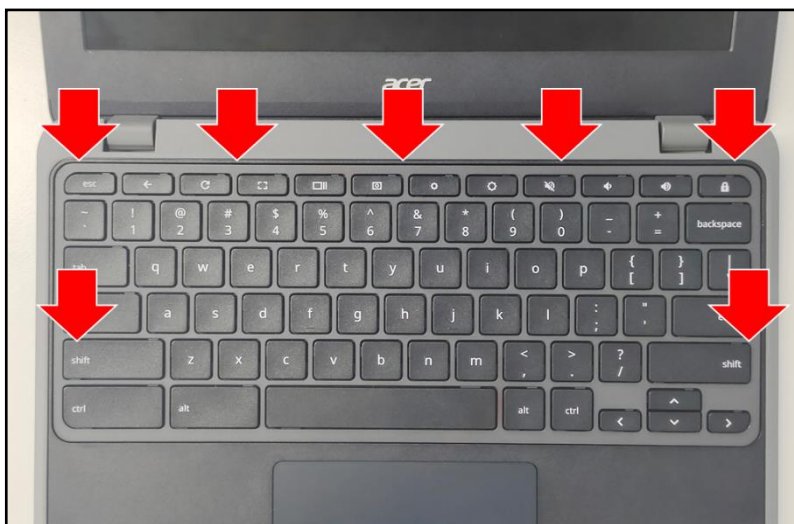

Figure 3-107. Replacing the Keyboard
4. Press all edges of the keyboard firmly to secure the latches. Make sure they are fully engaged (Figure 3-107).